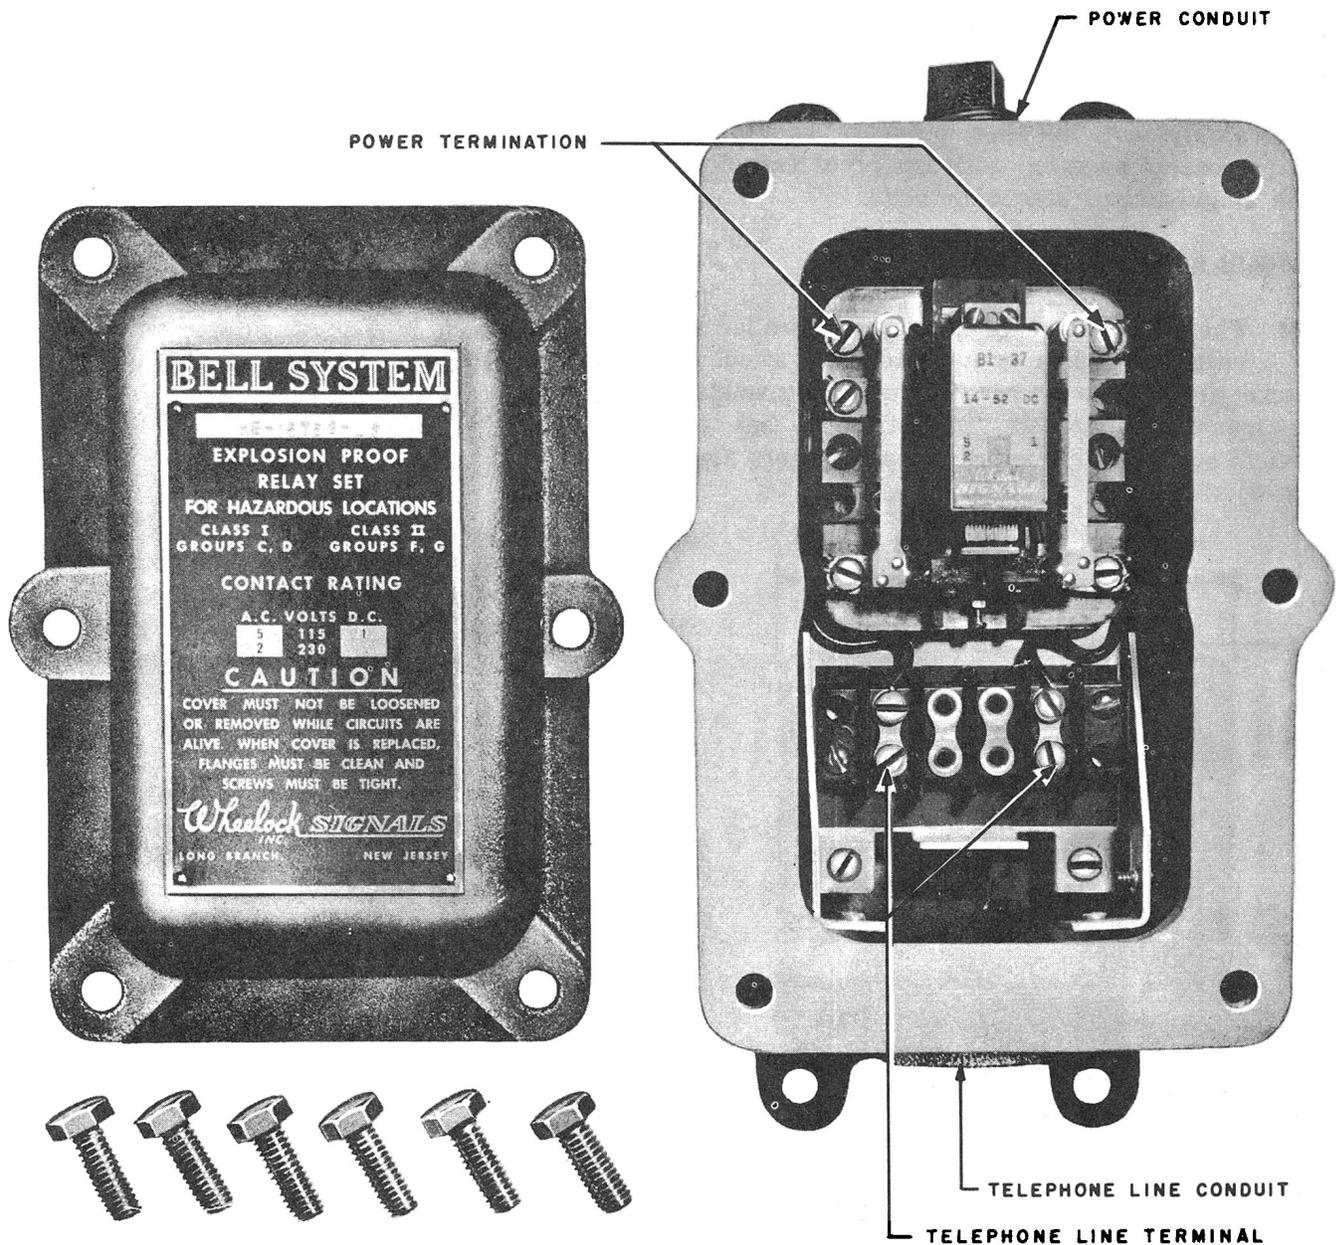

Fig. 3—KS-16763 Relay Set
2.10 The KS-16763 relay set (Fig. 3) is for indoor and outdoor use at hazardous locations. All the parts are enclosed in a cast aluminum housing. Two threaded openings are provided in the housing for fastening conduits. A plug is supplied with each relay set to close one of the openings when it is not in use.
2.11 The KS-16763 relay set is available under three list numbers (see Fig. 3).